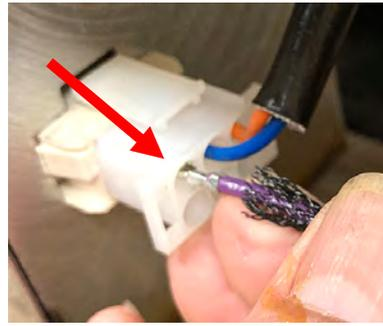

Figure 14
17. Insert the pin from the purple wire from step 16, into the # 1 pin position of the connector (see Figure 14). **NOTE: This is on the opposite exterior side of the purple plug in Figure 4.**